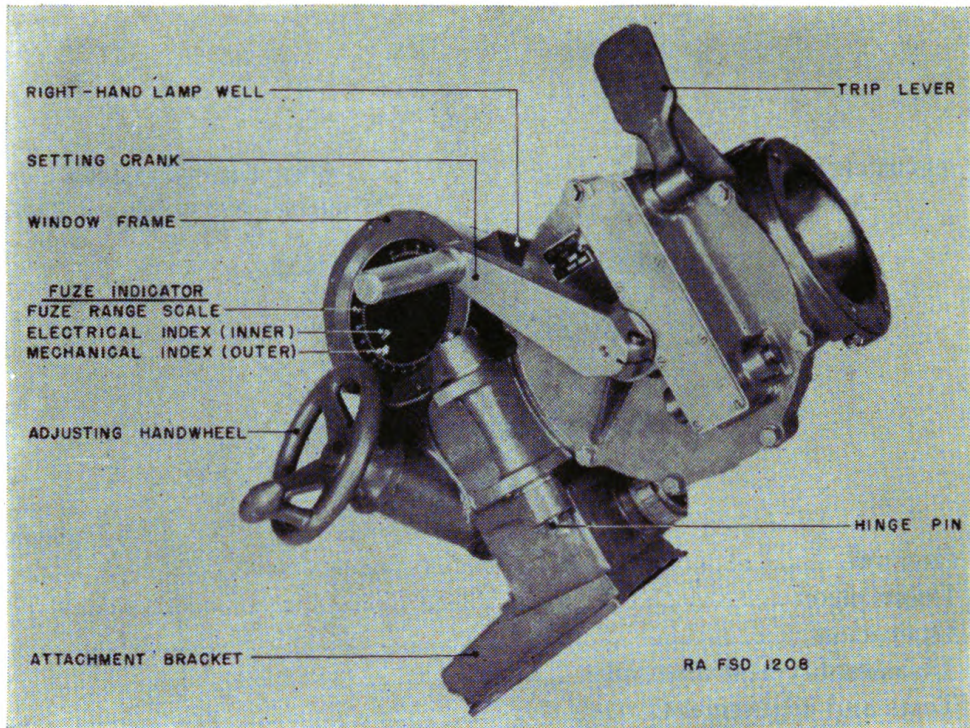
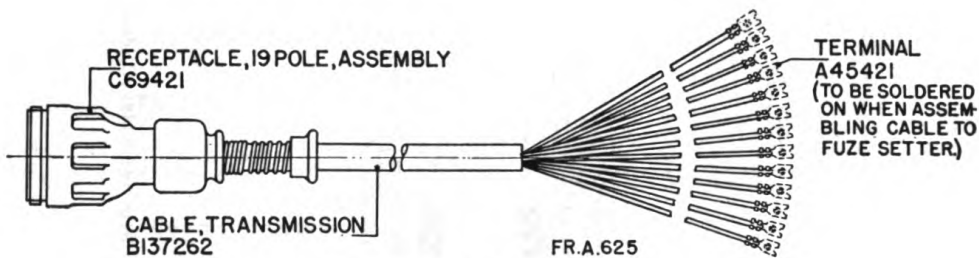

FIGURE 1.—Fuze setter, M8, left side and rear.
FIGURE 14.—Transmission cable.
2. **Description.**—*a.* The fuze setter (figs. 1 to 10 incl.) is mounted on the gun carriage by means of its attachment bracket. A short length of 13-conductor cable (fig. 14) is included to provide the
(1) The electrical (inner) index (fig. 1) is mounted on the shaft of the a. c. synchronous repeater.
(2) The fuze setter is provided with a 19-pole receptacle on the end of a short section of 13-conductor flexible cable (figs. 14 and 15) for connecting to the gun junction box on the carriage. A dummy receptacle (fig. 16) is provided for storing and sealing the cable receptacle when not connected to the gun junction box. The conductors of the transmission cable (B137262) are color coded. The terminals to which each conductor is connected are shown on the table below: